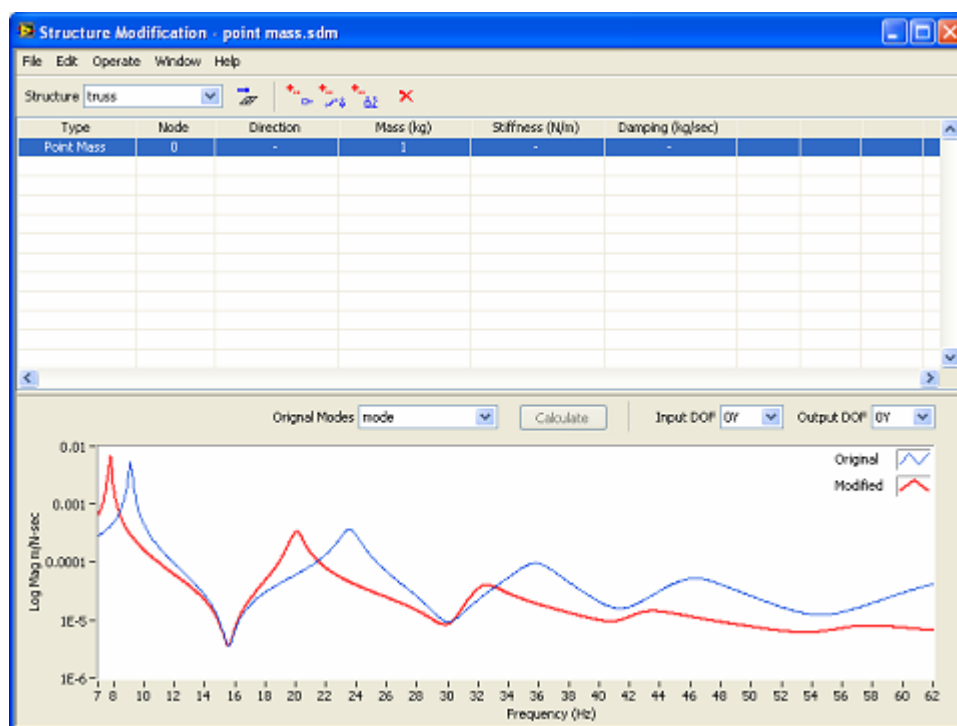

Figure 4-17 Modification Prediction
- Click button, the original FRF plot and newly synthesized FRF plot for the modified structure are displayed and overlapped together, as Figure 4-17 shows.